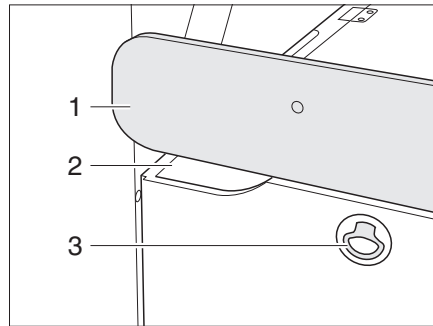

Fig. 32 Bench seat
▷ Do not pull at the cover (Fig. 32,1).
■ Pull out the extension at the handle (Fig. 32,2) under the cover.
■ Open the storage space lid by pulling the latch (Fig. 32,3).